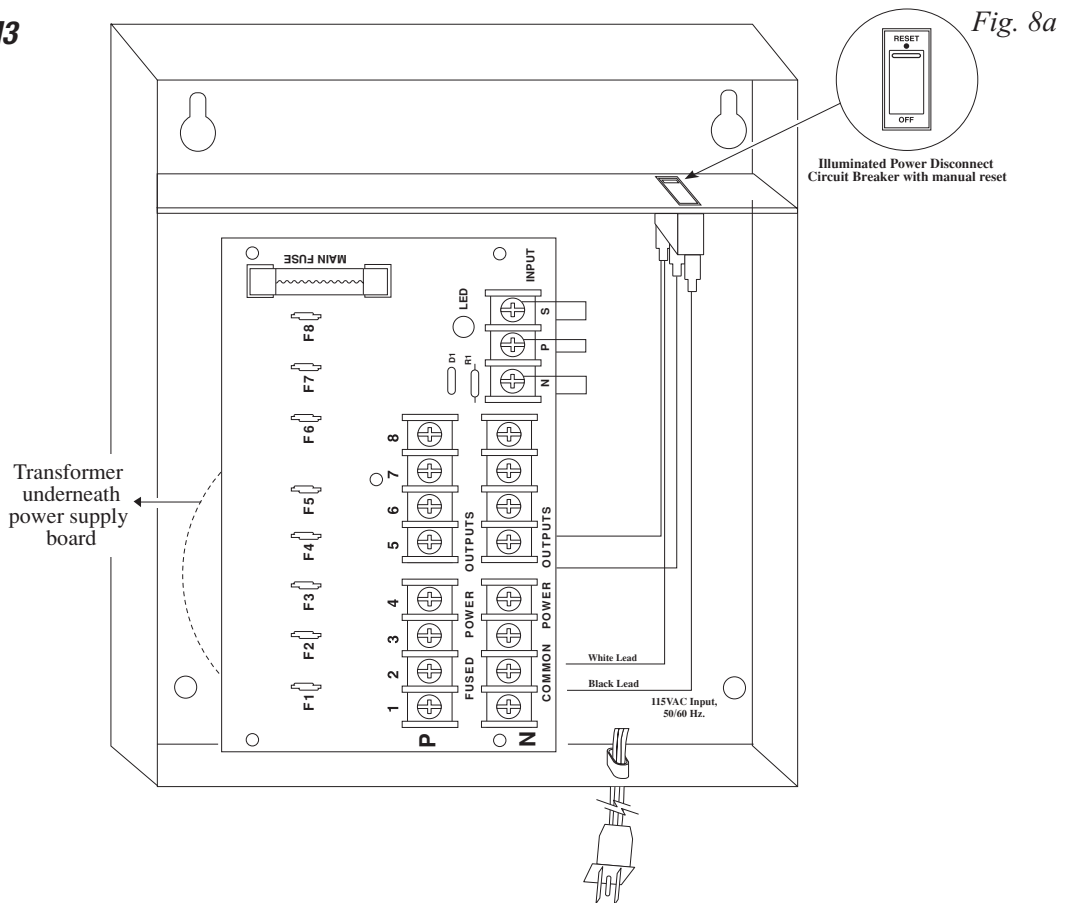

Fig. 9
8. Connect devices to terminals marked [1P] - [1N] through [4P] - [4N] on PD4/PD4CB board (*Figs. 9, 10, pgs. 9, 10*) or terminals marked [1P] - [1N] through [8P] - [8N] on PD8/PD8CB board (*Figs. 1-8, pgs. 5-8*), carefully observing polarity.